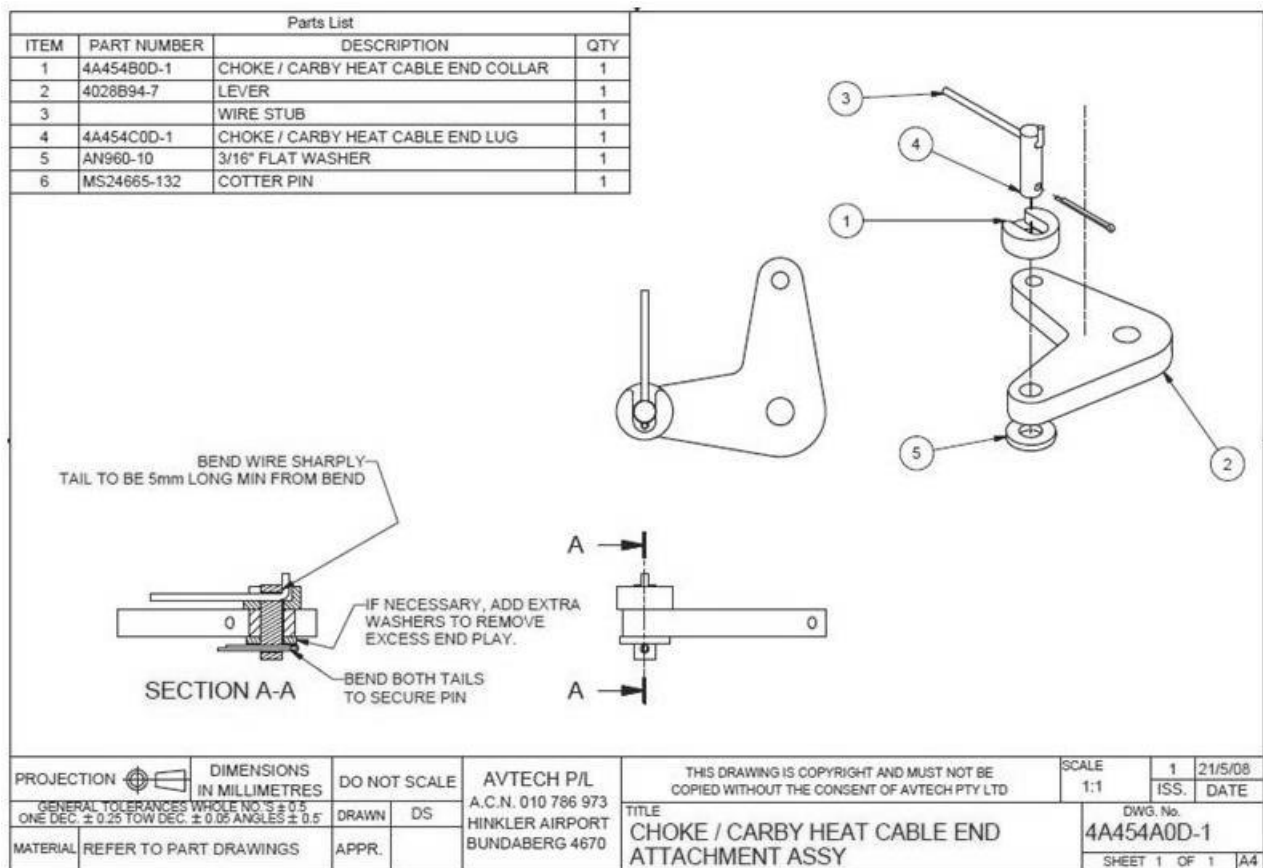

Figure 158 – Control Cable End Fitting Installation (all J-Series)
- To remove the cable end fitting, remove the cotter pin (Figure 158). Note that for older aircraft the soldered end fitting must be heated (with a powerful soldering iron or small gas burner) and removed when the solder melts.